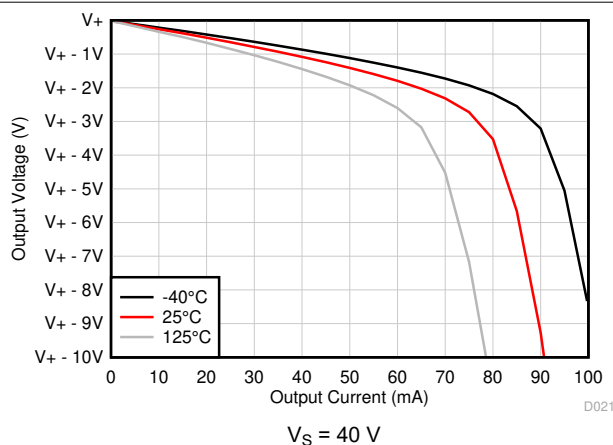

图 5-12. Output Voltage Swing vs Output Current (Sourcing)
- (1) Specified by characterization only.
- (2) At high supply voltage, placing the TLV936x in a sudden short to mid-supply or ground will lead to rapid thermal shutdown. Output current greater than  $I_{SC}$  can be achieved if rapid thermal shutdown is avoided as per 图 5-12.